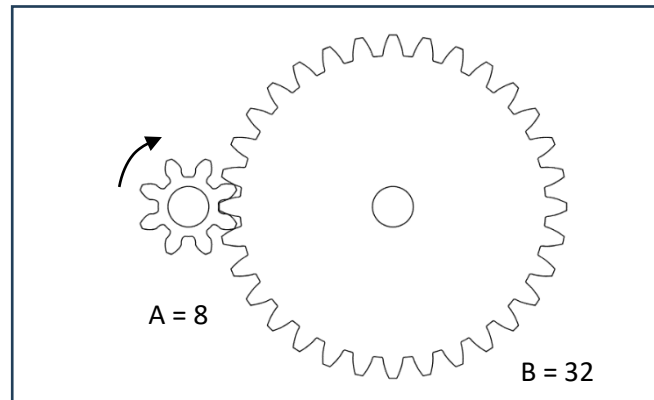

Figure 16b
d. Figure 16b shows more detail of the gear system. Gears A has 8 teeth, while Gear B has 32 teeth.
ii. The sentence below explains the behaviour of the gear system in Figure 16b. Assuming that two full turns are applied to Gear A, fill in the missing information in the following sentence.